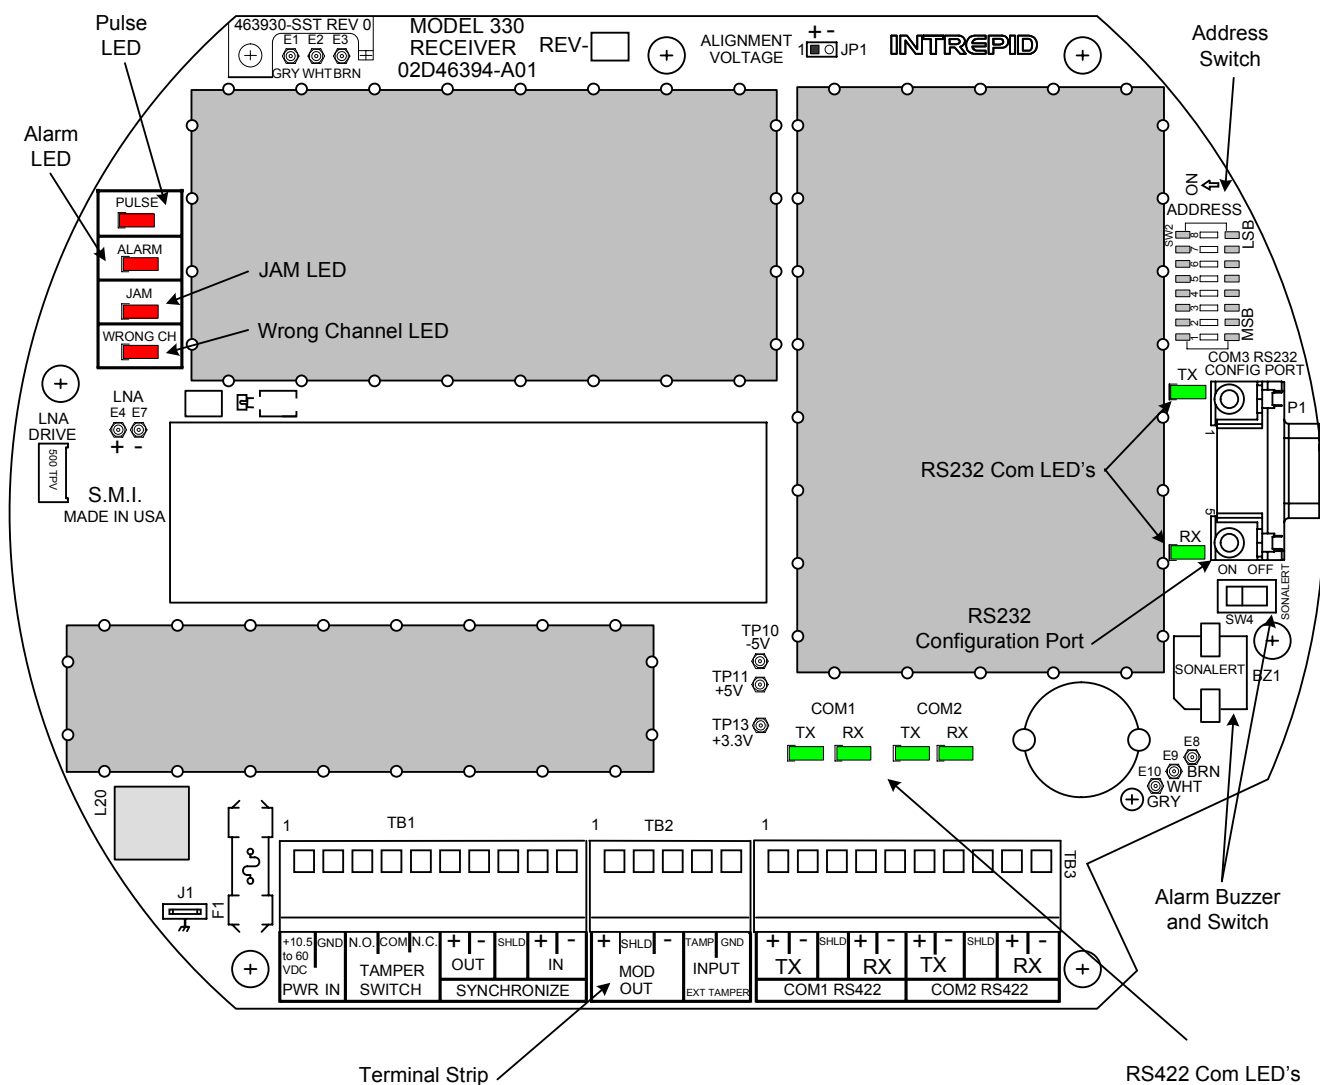

Figure 30 – MicroWave 330-33461Receiver
The electrical connections, switches and indicators for the MicroWave 33033461 Receiver are shown in Figure 30.
3. Make connections to the terminal strip according to labeled terminal functions as shown in Figure 30.